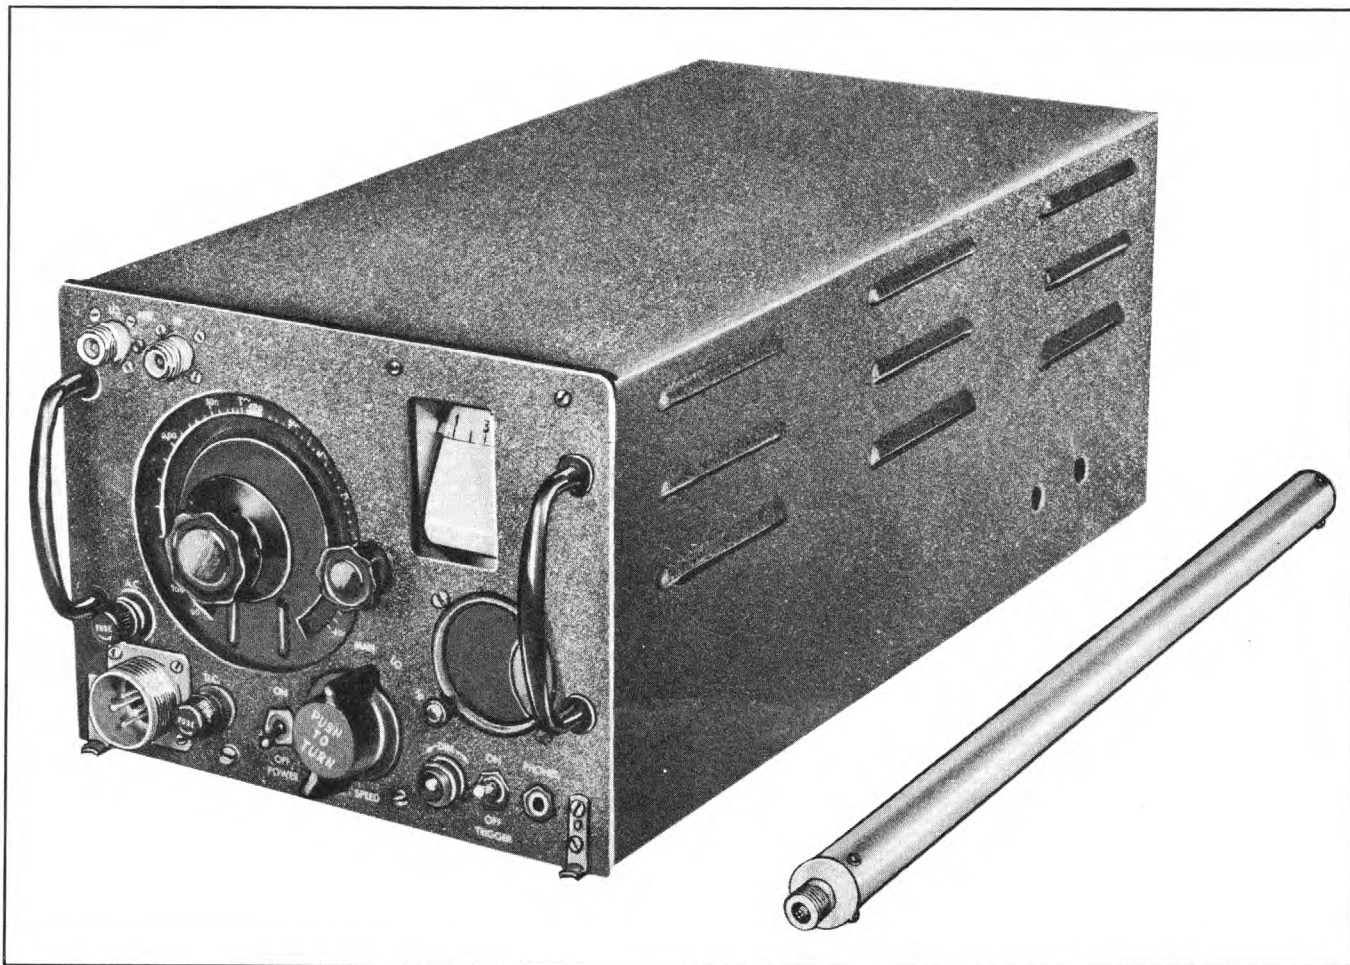

Figure 1-1. Radar Receiver R-34/APR-2 And Antenna Filter F-3/APR-2
a. RADAR RECEIVER R-34/APR-2. (See figure 1-1.)
(1) The filter (fig. 1-1) may be placed anywhere in series with the coaxial cable connecting the low-frequency antenna (Antenna Assembly AS-25/APR-2) with the receiver. (See subparagraphs d(1) (a) and (b), this Section.)
(2) Location near the receiver will allow tests to be made more conveniently with and without the filter.
(3) Mount the filter with two AN-742-20C clips, loop type, tube.
(4) Use care not to dent the casing.
(5) Allow three to four inch clearances at the ends to permit attachment of Radio Frequency Plug UG-21/U.